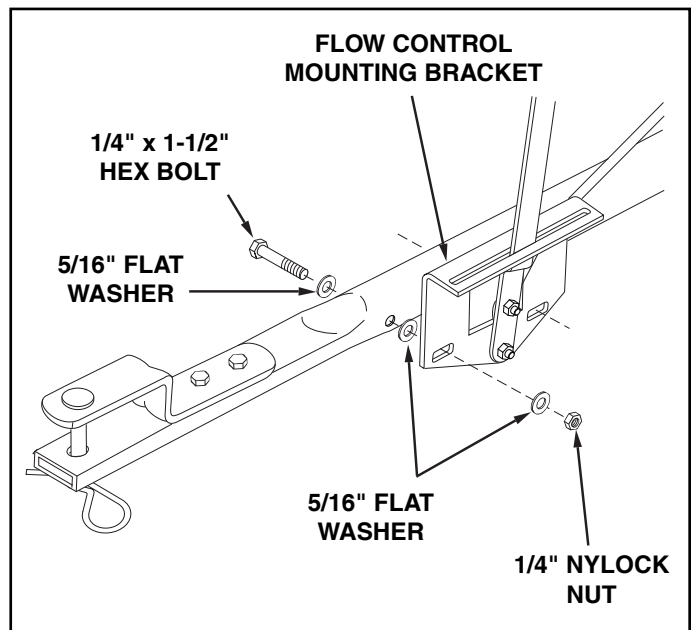

FIGURE 11
19. Assemble the flow control mounting bracket to the hitch tube using two 1/4" x 1-1/2" hex bolts, six 5/16" flat washers and two 1/4" nylock nuts as shown in figure 11. Do not tighten at this time.